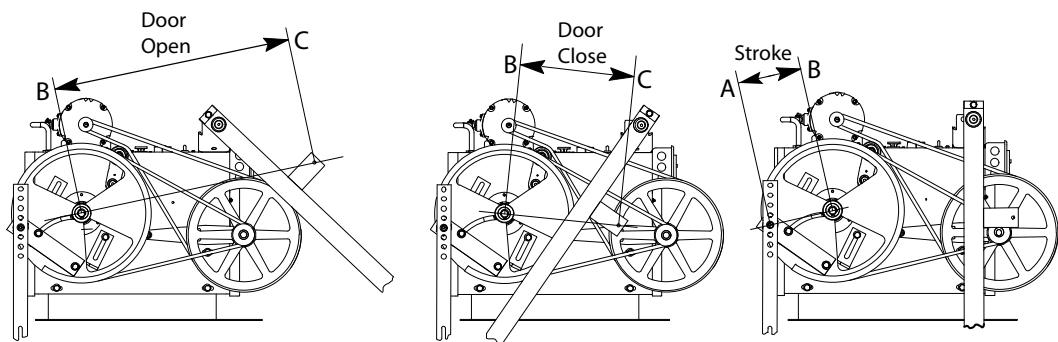

Figure 4 - Door Operator Stroke
2. Measure the distance from B to C and record this measurement as Door Open (DO). See Figure 4.
4. Measure the distance from B to C and record this measurement as Door Closed (DC). See Figure 4.
7. Move the adjustable arm in the circular slot of the drive wheel so that the distance from A to B is equal to the calculated stroke length. See Figure 4.